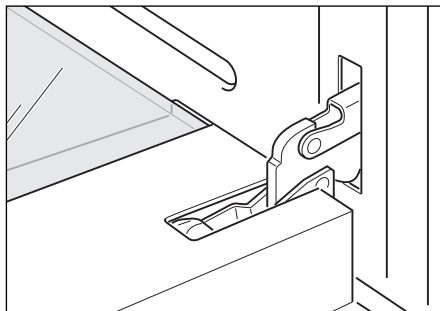

Fig.51a
- Fully open the oven door (Fig. 51a).
- 1 **Make sure the door is locked open** (see Figs 51a - 51c).